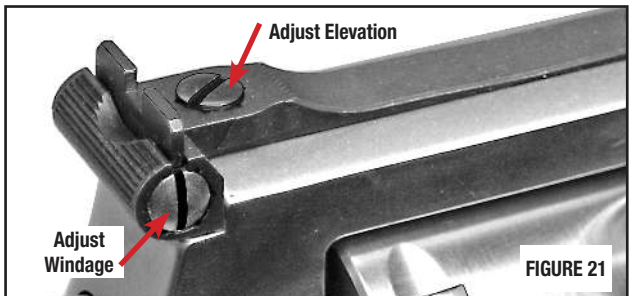

FIGURE 21
- To make a sight adjustment with an adjustable rear sight (reference FIGURE 21);